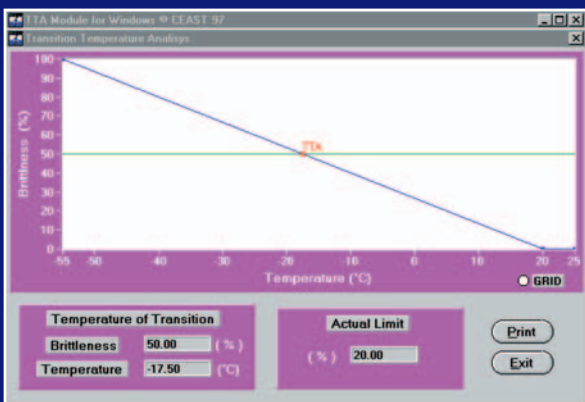

Fig. 10 D8WTTA transition temperature curve
- Cursor inspection of the TTA curve with visualization of numerical values Fig. 10